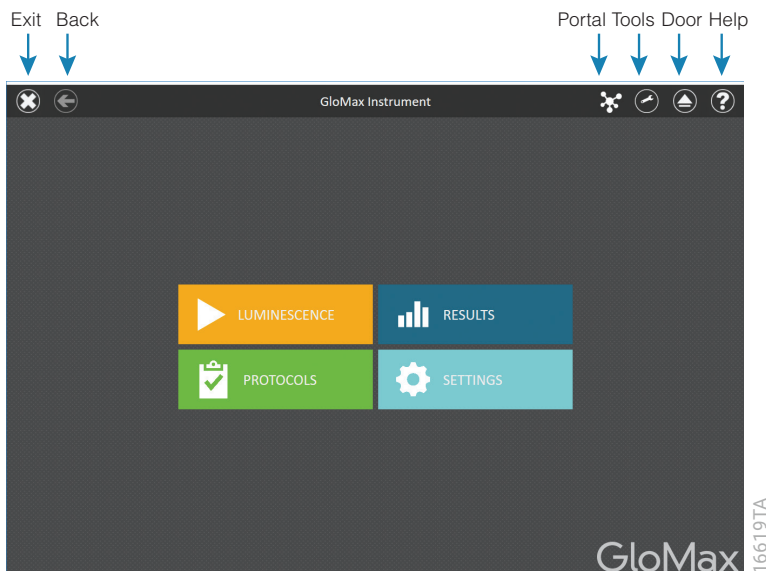

Figure 7. GloMax® Navigator software ‘Home’ screen.
- Shut down the GloMax® Navigator Software by tapping on the x in the upper left corner (Figure 7).